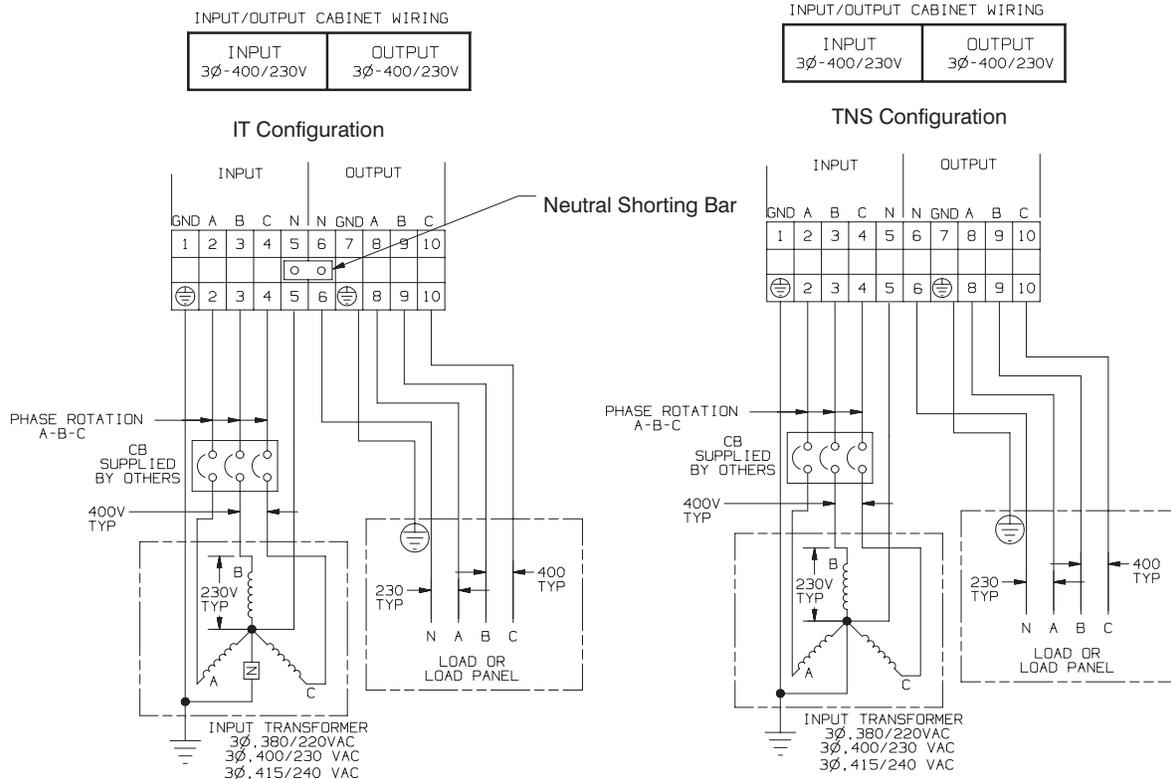

Figure 36. Power Cable Terminal Blocks
7. Remove the I/O access plate and connect the wiring to the terminal block according to the following table and Figure 36 for the UPS output. Use the conduit plate for conduit landing.
10. The UPS is factory-set with the output neutral connected to the ground in a TNS configuration (see Figure 36). If you want to operate the UPS in an IT configuration: